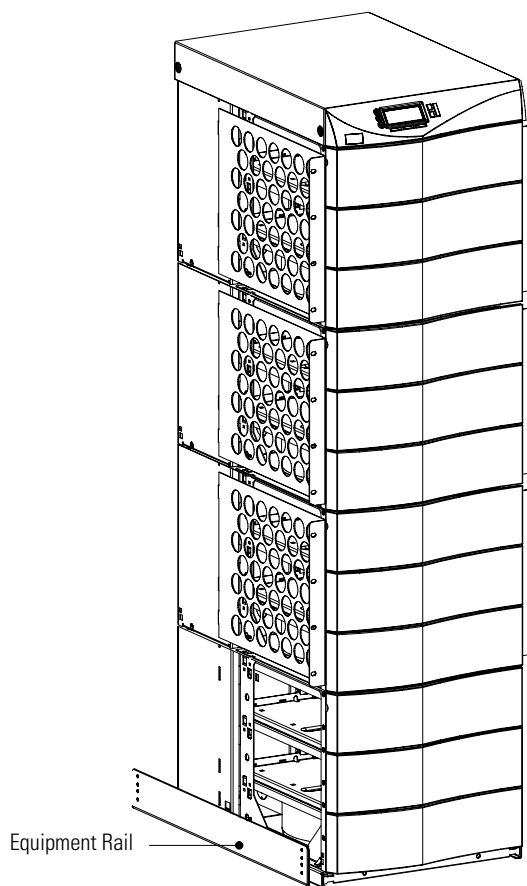

Figure 3. Rails Holding UPS Cabinet
8. With one person lifting each side of the cabinet, position the cabinet onto the two equipment rails (see Figure 3).